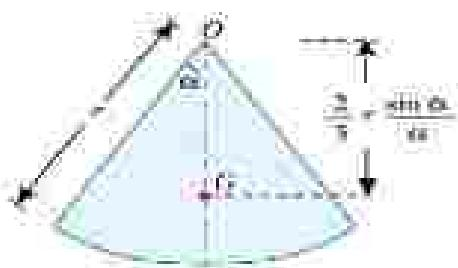

Fig. 6.5. Circular sector
6. The centroid of a circular sector making semi-vertical angle α is at a distance of $(\frac{2r \sin \alpha}{3})$ from the centre of the sector measured along the central axis as shown in Fig. 6.5.